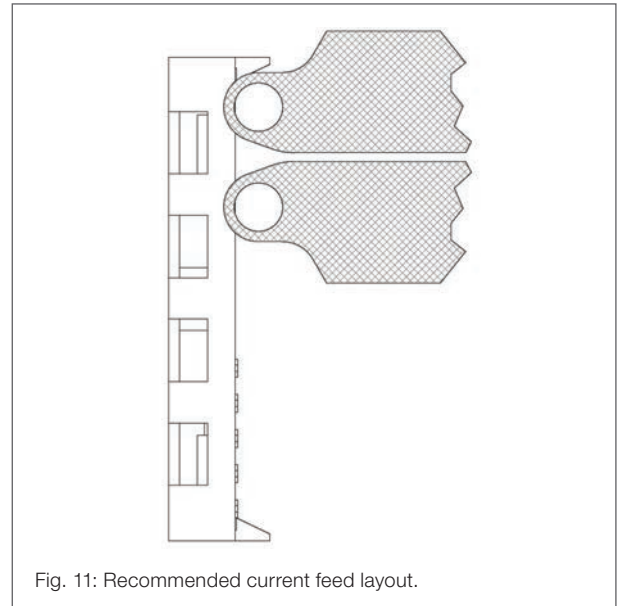

Fig. 11: Recommended current feed layout.
- The Accuracy of the CMS3100 depends strongly on a symmetrical current feed layout. The recommended current feeds should be routed straight and parallel as shown in Fig. 11. If a change of direction (e.g. rectangular routing) is necessary in such a case, e.g. at a distance of 10 mm, an additional gain error of 0.7% (IPN) occurs, decreasing with increasing distance.